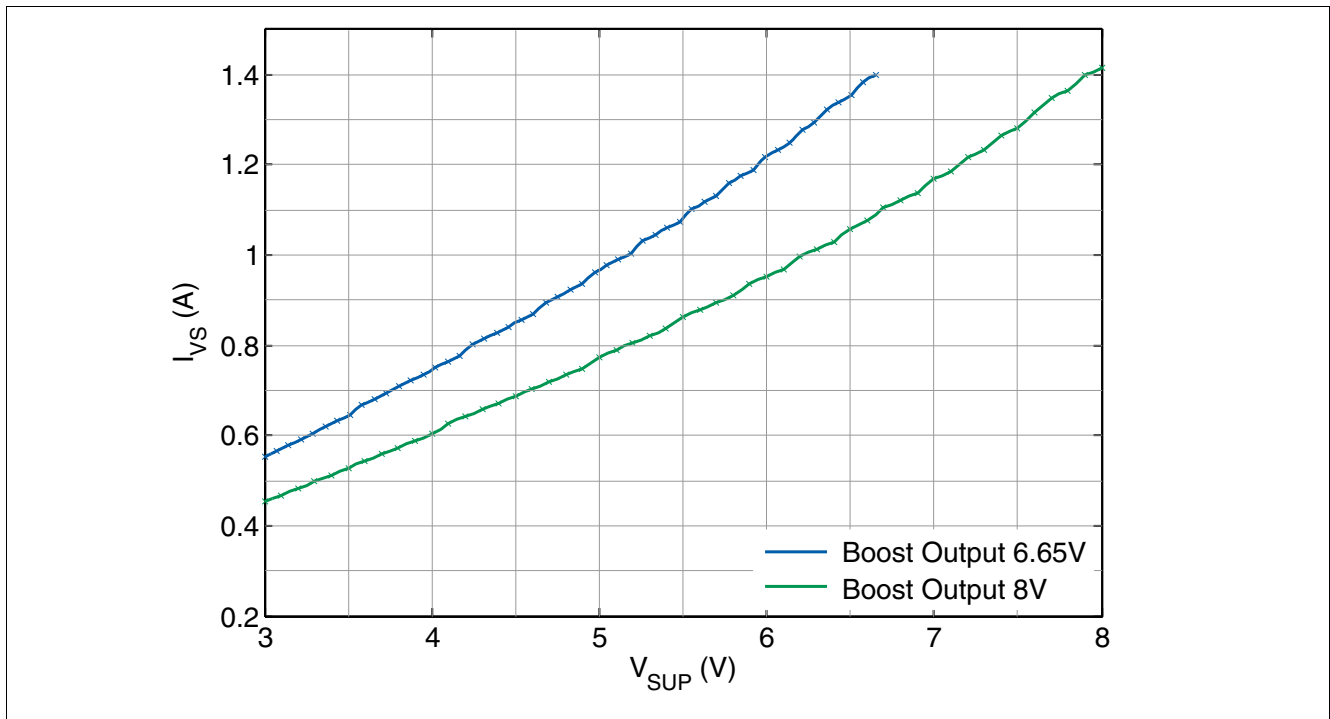

Figure 14 Maximum DCDC boost current capability versus VSUP.
- 3) Values verified in characterization with boost converter specified in Chapter 15.1. Not subject to production test; specified by design. Refer to Figure 14 for additional information.
Note: Figure 14 is based on simulation results (specified by design), with boost converter external components specified in Chapter 15.1.